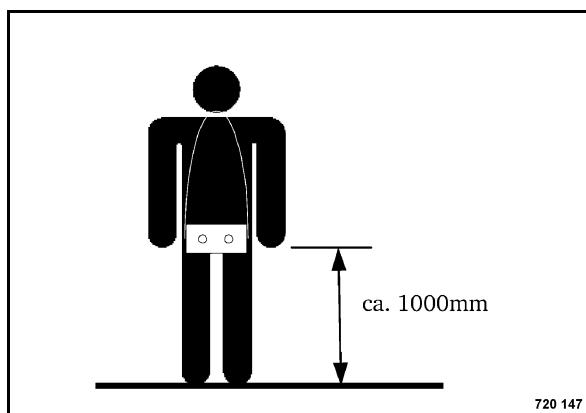

Fig. 4
- The remote control must be carried in front of the body, as intended (Fig. 4).